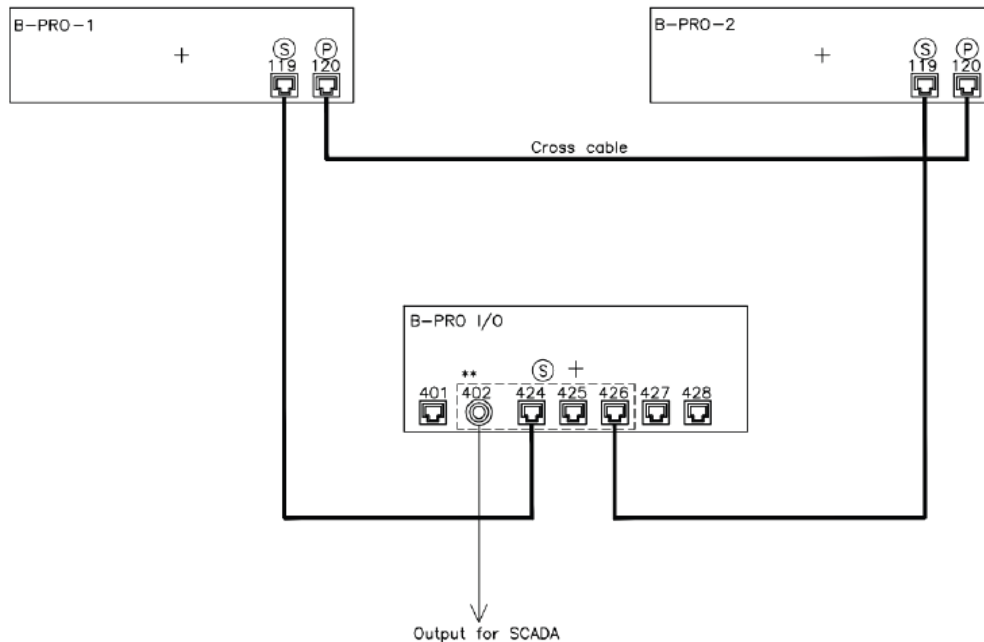

Figure 5: Network architecture for two B-PRO units and one I/O unit
As shown in Figure 5, the two B-PRO Multi-Busbar units and I/O Expansion unit are connected to exchange digitized current signals using IEC 61850 Sampled Values (SV).